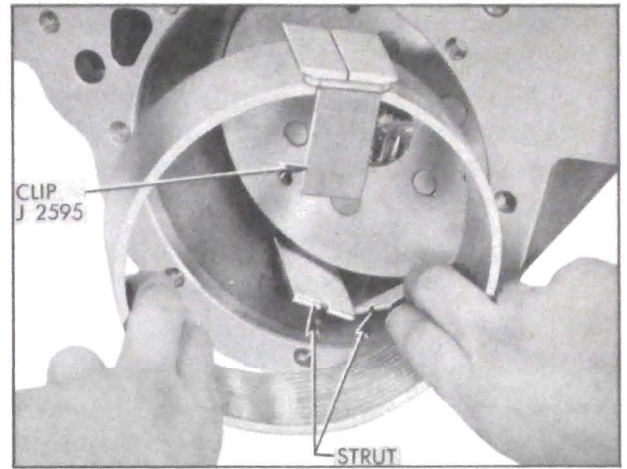

Figure 5-33—Removing Band with Clip J 2595
7. Compress the low band with the operating lever while applying Band Clip J 2595 across the strut flanges of the band. Release the lever and remove low band, then remove the struts which will drop into case. See figure 5-33.